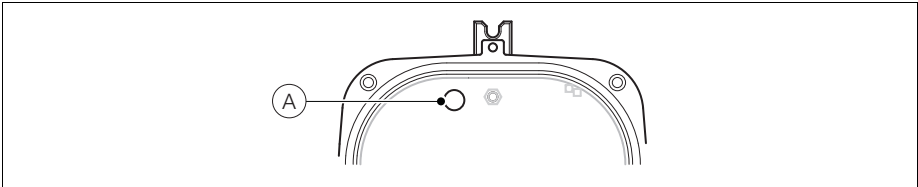

Fig. 4.10 Remote Transmitter – Replacing the Internal Fuse
3. Referring to Fig. 4.10, remove the plug-in fuse (A) from the fuse socket.